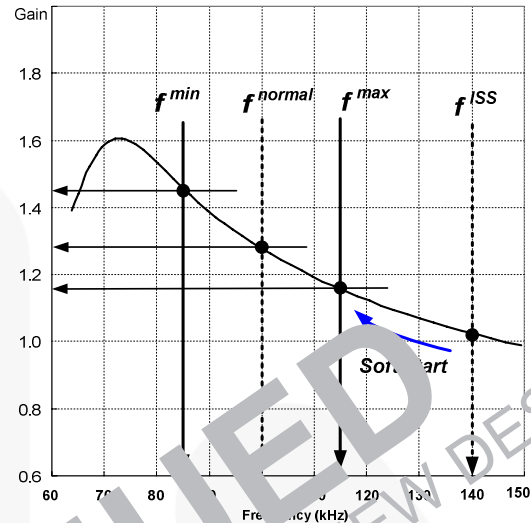
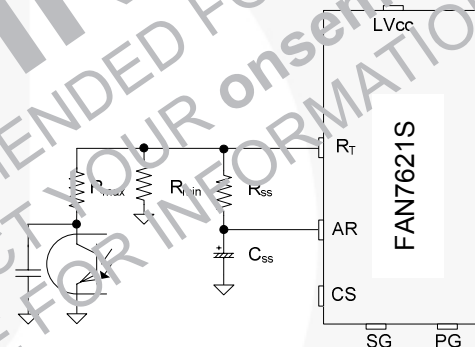

Figure 17. Resonant Converter Typical Gain Curve
Figure 18. Frequency Control Circuit
**3. Frequency Setting:** Figure 17 shows the typical voltage gain curve of a resonant converter, where the gain is inversely proportional to the switching frequency in the ZVS region. The output voltage can be regulated by modulating the switching frequency. Figure 18 shows the typical circuit configuration for  $R_T$  pin, where the opto-coupler transistor is connected to the  $R_T$  pin to modulate the switching frequency.
To prevent excessive inrush current and overshoot of output voltage during startup, increase the voltage gain of the resonant converter progressively. Since the voltage gain of the resonant converter is inversely proportional to the switching frequency, the soft-start is implemented by sweeping down the switching frequency from an initial high frequency ( $f_{ISS}$ ) until the output voltage is established. The soft-start circuit is made by connecting R-C series network on the  $R_T$  pin, as shown in Figure 18. FAN7621S also has an internal soft-start of 3ms to reduce the current overshoot during the initial cycles, which adds 40kHz to the initial frequency of the external soft-start circuit, as shown in Figure 19. The initial frequency of the soft-start is given as: